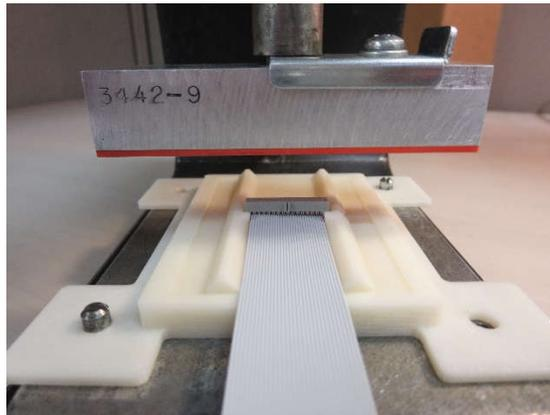

Figure 9
- 3.5 Install the 3M™ base plate, and appropriate locator plate insert on the press. (See Figure 5) Add platen by positioning it parallel with the connector body and cover. (See Figure 9)
- 5.2 Bring the handle of the press down until the IDC's press into cable and the connector fully seats into the cover. (See figure 9)